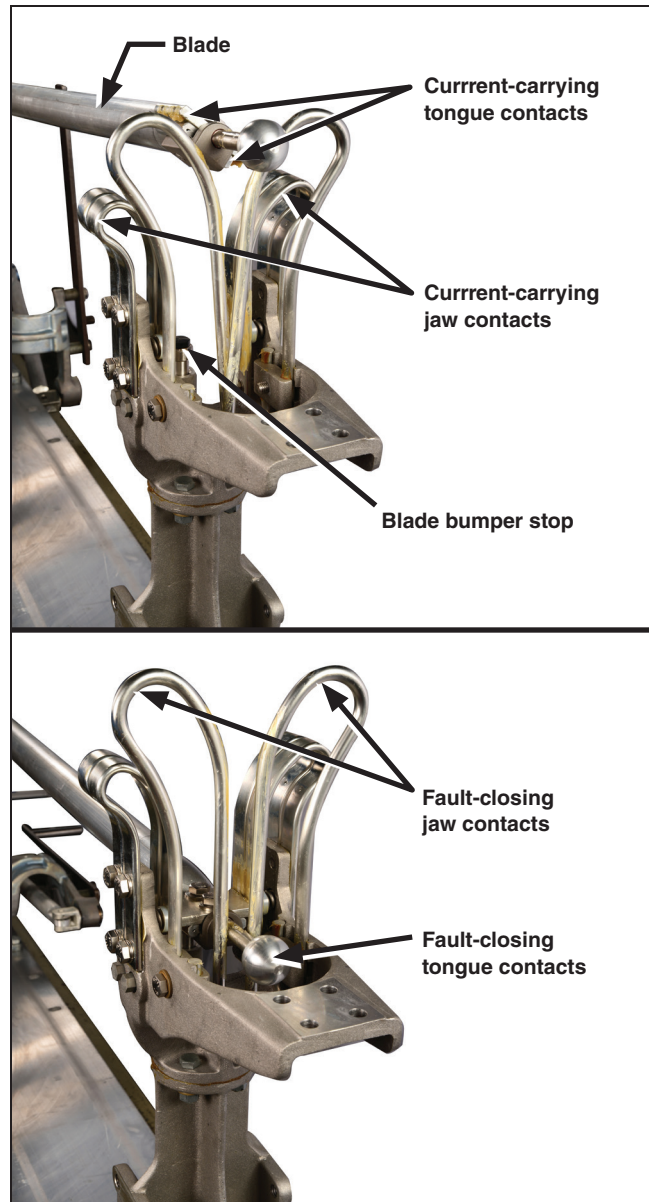

Figure 10. Tongue-contact and jaw-contact assemblies shown in partially Closed and fully Closed positions.
STEP 6. Upon closing, make sure the current-carrying tongue contacts on each disconnect blade enter the current-carrying jaw contacts with equal clearance on each side. See Figure 10.